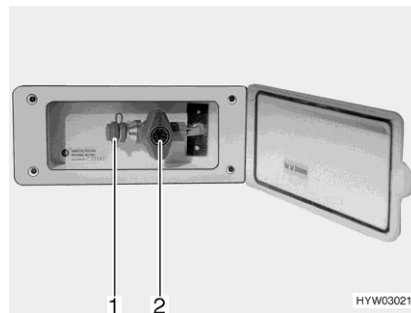

Fig. 88 External gas connection
- Connect the external gas device to the connection point (Fig. 88,1).
- Open the gas isolator tap (Fig. 88,2).